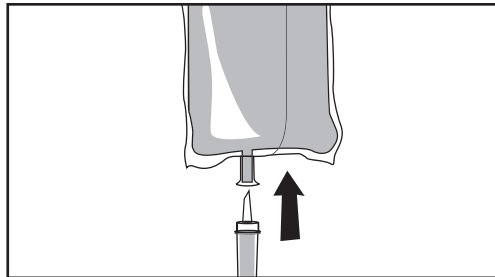

Figure 8. Connecting Saline Flush Line to Saline Bag.
6. Remove cap from tip of Saline Flush Line and attach to the saline source (Figure 8). Ensure clamp on Saline Flush Line is open.